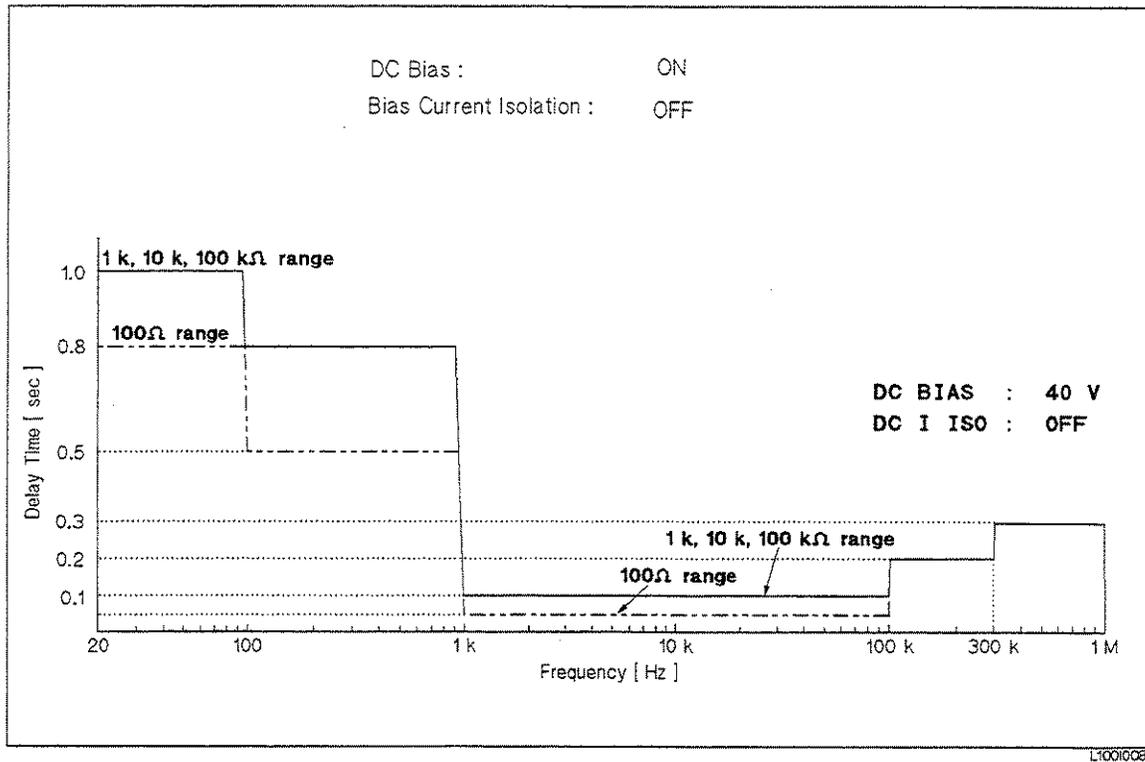

Figure G-7. Required Delay Times For Short Circuit Recovery (2)
1. To recover from a short circuit condition under the following conditions, use the appropriate delay times as shown in Figure G-6 and Figure G-7.